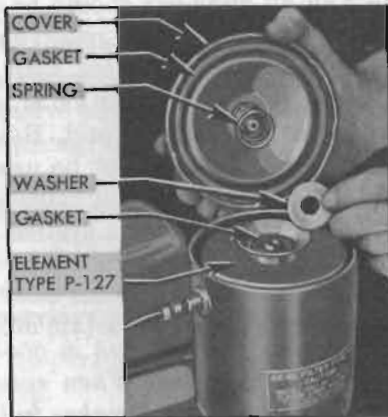

Figure 1-12—Changing Oil Filter Element
3. *Oil Filter.* Change original filter at first 1000 miles, the second element at first 5000 miles, then change element at each 5000 miles interval thereafter. Remove old element, draw old oil out and then wipe out interior of container with CLEAN cloths. Install new element and new cover gasket. See figure 1-12. Use only Buick Oil Filter Replacement Element, Part No. 5572129 (AC Type P 127).